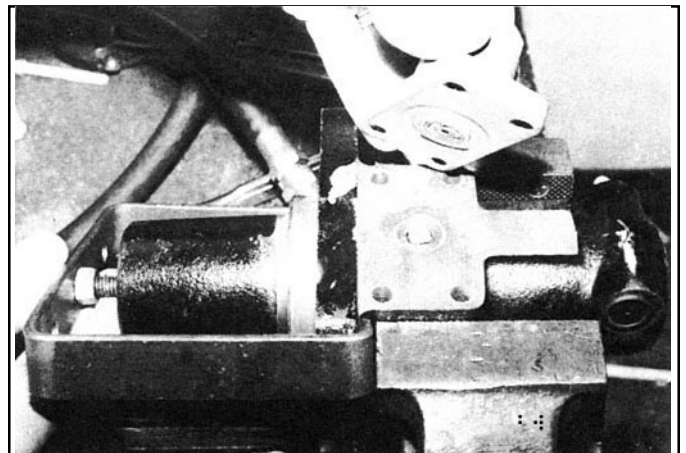

FIGURE 9
7. With piston still depressed, install compensating spring (11) and compensating valve (3). Set adapter block (or reservoir) in place. The master cylinder casting should preferably be held in a horizontal position for this operation. Start the four self-threading bolts (9) by hand to prevent cross threading and torque to 150- 200 inch pounds. **Care should be taken that the compensating valve is properly located before the adapter block or reservoir is located and snugged down (Fig. 9).** The piston may now be released by removing the retaining tool.